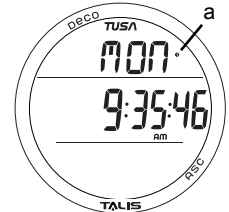

Fig. 7A - DEFAULT TIME
Main Time is the current Time at your home location and is normally selected as the Watch Default Time (Fig. 7A).
WATCH DEFAULT TIME, information includes (Fig. 7A - 7D):
- > Daily Alarm icon (clock) if it is set On (Fig. 7a).